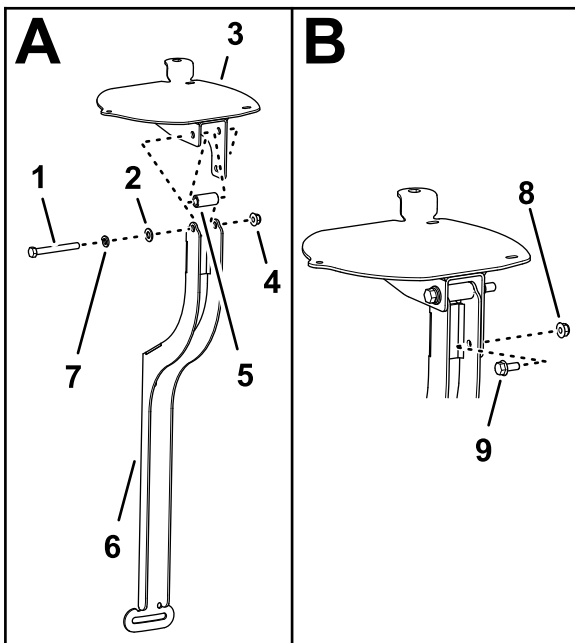

Figure 153
1. Align the holes in the navigation-receiver plate, spacer (3/8 x 1 inch), and receiver mount (Figure 153).
- Assemble the receiver plate and spacer to the mount with a bolt (3/8 x 3-1/4 inches), lock washer (3/8 inch), washer (3/8 x 13/16 inch), and flange locknut (3/8 inch) as shown in Figure 153.
- Assemble the flange-head bolt (5/16 x 3/4 inch) and flange locknut (5/16 inch) through the smaller hole in the receiver mount and the slot in the receiver plate (Figure 153).